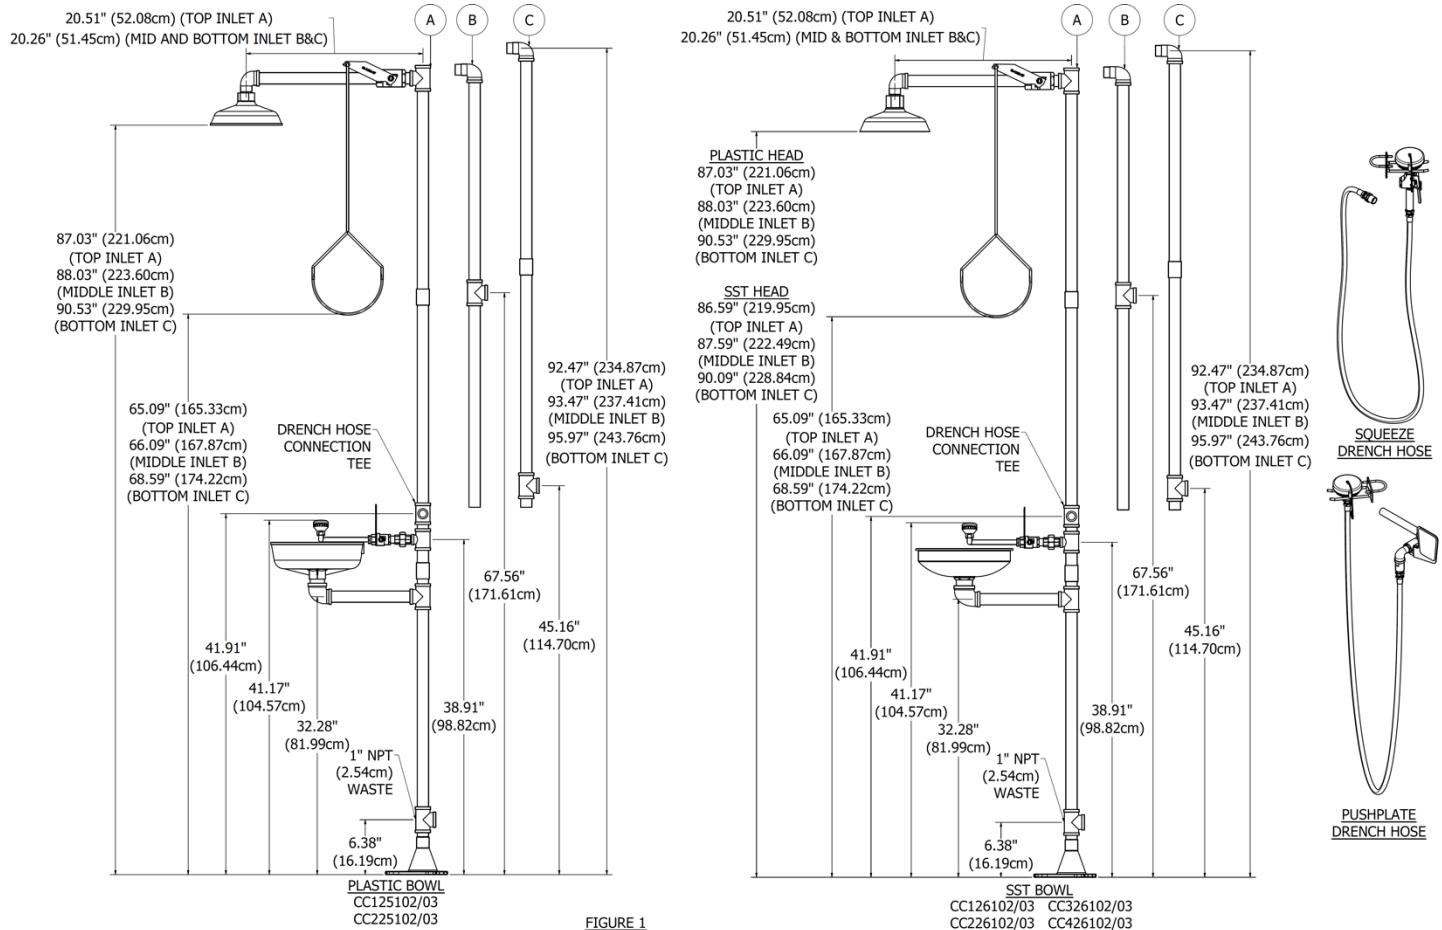

FIGURE 1
5. Assemble components in order based on sequence numbers provided on **Figure 4** first then the sequence provided in **Figure 5**. The fittings used for each inlet option A, B, or C (see **Figure 1** and **notes** on Page 1) are indicated in sequence #4, #6, and #8.